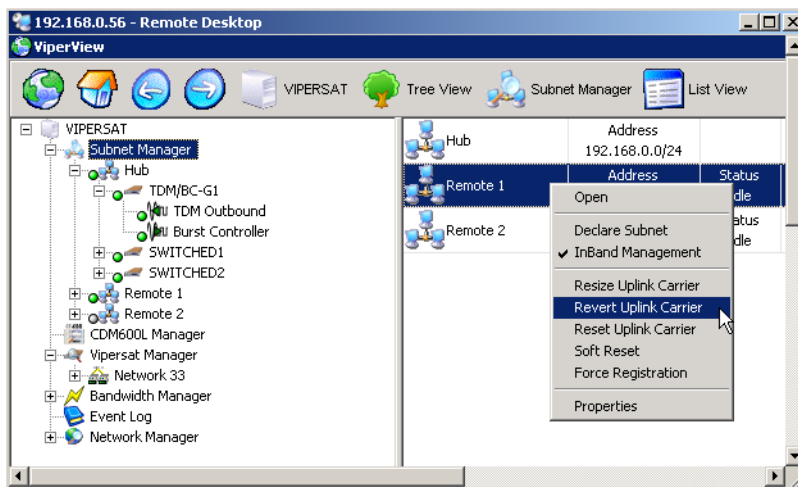

Figure G-6 Revert uplink carrier command, VMS controlled modem
5. In VMS, right click on the remote from the drop-down menu shown in figure G-6 then click on the **Revert Uplink Carrier** command. This causes VMS to send the revert command to the target VMS controlled modem causing it to revert to its STDMA home state.